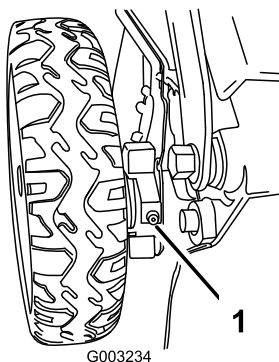

Figure 34
1. Wipe the grease fittings just inside the rear wheels with a clean rag (Figure 34).